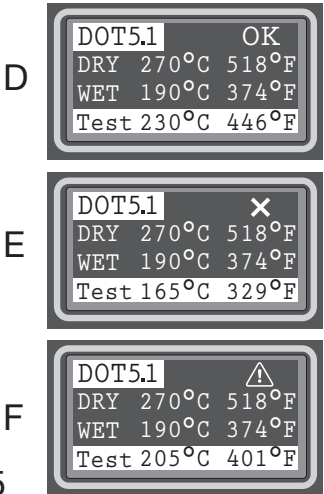

Fig 5
Refer to Figure 5: The test result offers a recommendation as to the suitability of the brake fluid in the vehicle’s braking system:
- When test is completed, the screen will display the standard Dry and Wet boiling points for the grade of brake fluid selected, plus the results of the test in degrees Celsius and Fahrenheit. (Refer to Figure 5.)